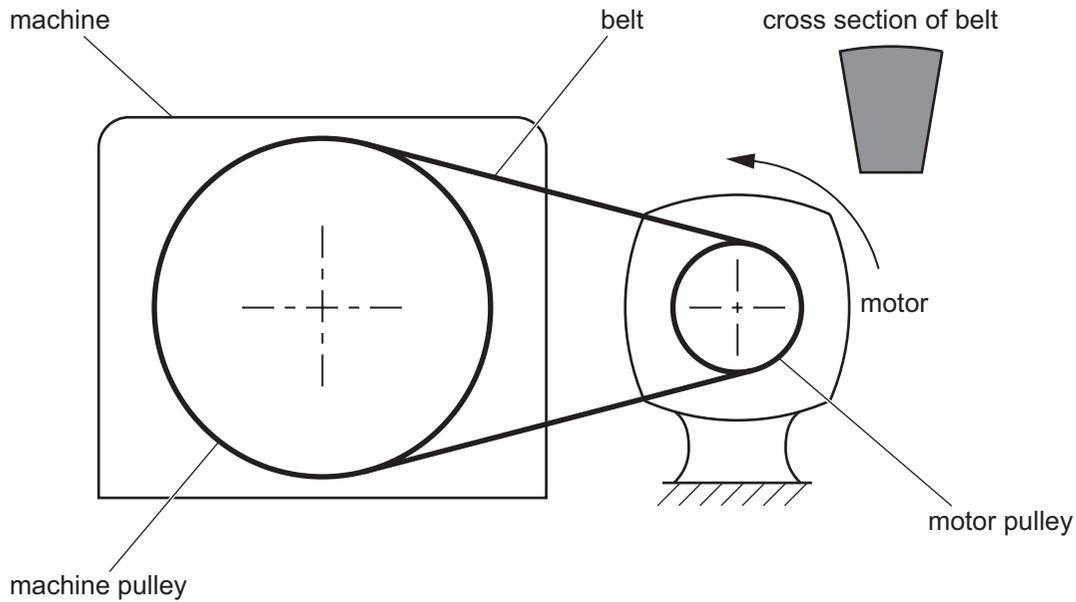

Fig. 2
- 3 Fig. 2 shows a belt and pulley system which is used to transmit power from a motor to a machine pulley.
- (iv) Mark on **Fig. 2** the direction of motion of the machine pulley. [1]